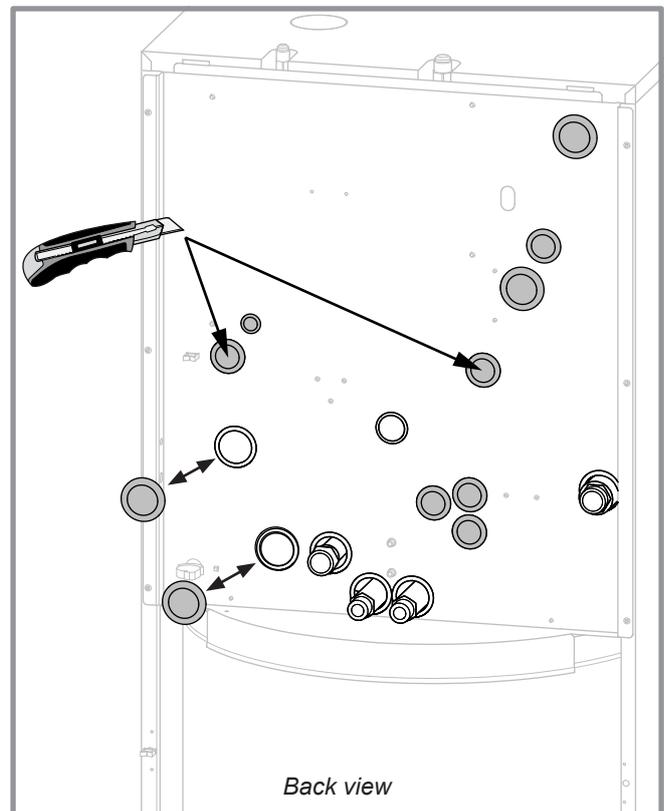

figure 5 - Pipes passages
- Replace the cable grommet by the cable grommet included in the kit (see figure 5, page 4).